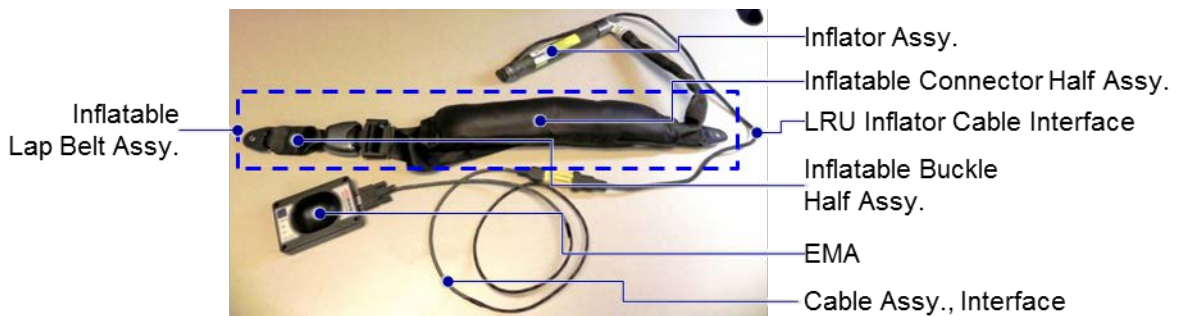
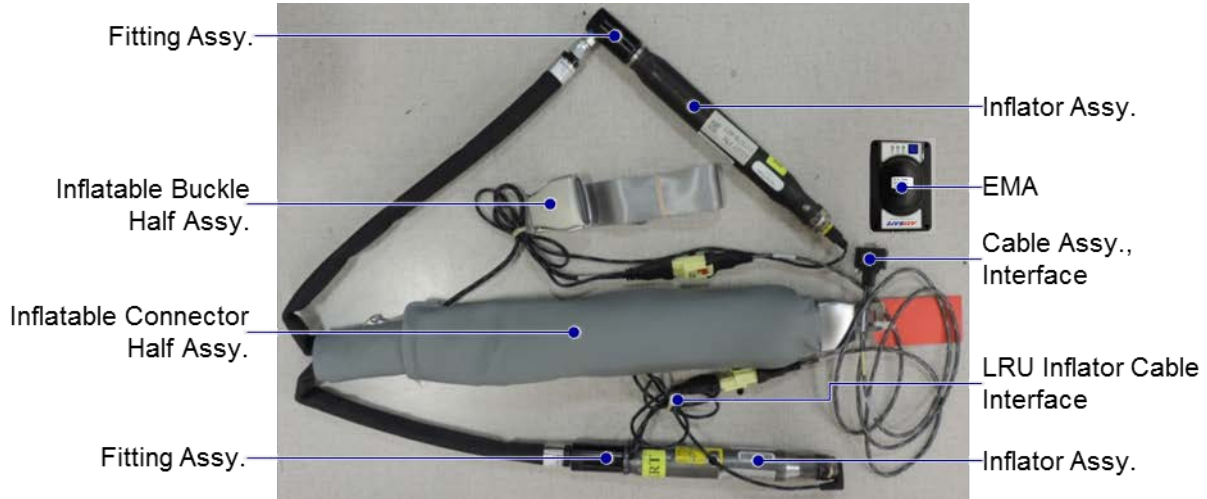

Figure 2 – Representative System with an Compact End-Release Buckle
Figure 3 – Representative System with Two Inflator Assemblies
Seatbelt airbag systems (Figure 1, Figure 2 and Figure 3) consist of the following components.
- Systems with a Lift-Latch Buckle: All systems with a lift-latch buckle have enabling switches (Figure 1 and Figure 3). (The enabling switch is a component of the inflatable connector half assembly.)